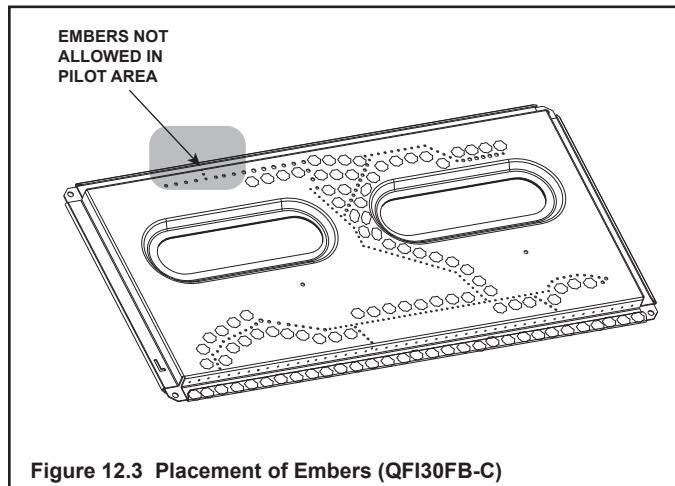
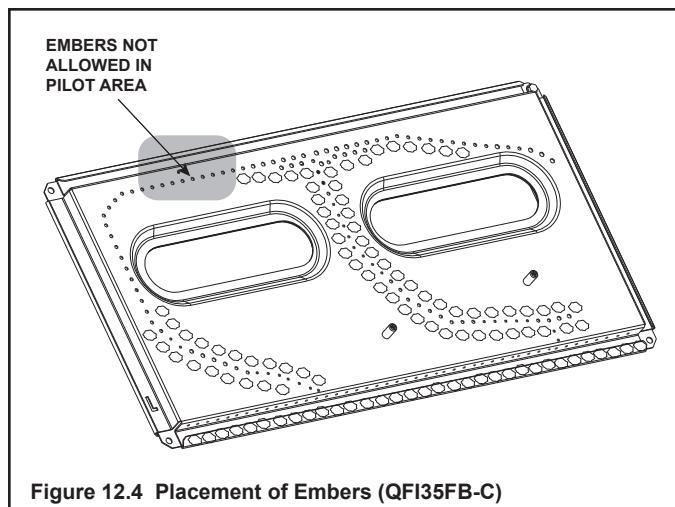

Figure 12.3 Placement of Embers (QFI30FB-C)
Figure 12.4 Placement of Embers (QFI35FB-C)
- Place dime-size pieces of Glowing Embers® just in front of the port trail, but not on or in between the ports. See Figure 12.3 (QFI30FB-C) or Figure 12.4 (QFI35FB-C). Care should be taken so that the ports are not covered. Failure to follow this procedure will likely cause lighting and sooting problems.